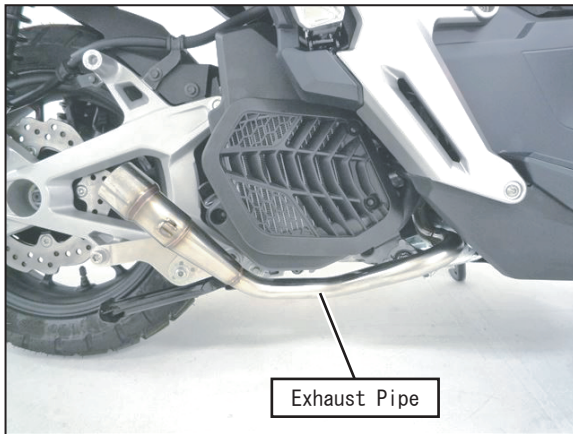

FIG. 5
- 6) Make sure to insert HONDA genuine exhaust gasket into exhaust port. Then, mount Exhaust Pipe on exhaust port with stock nuts. Tighten nuts by hand at this stage (See Fig. 5 & 6).